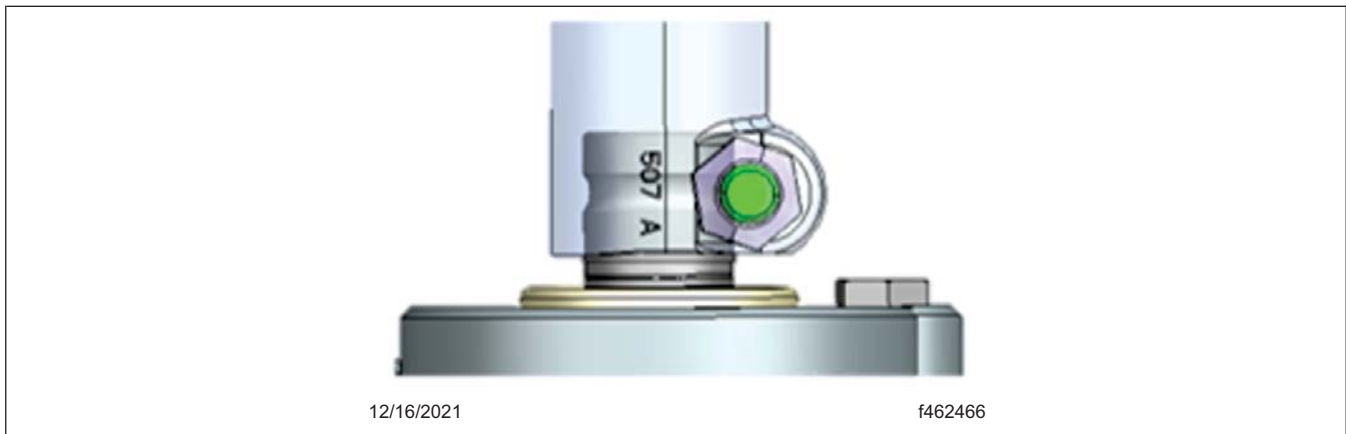
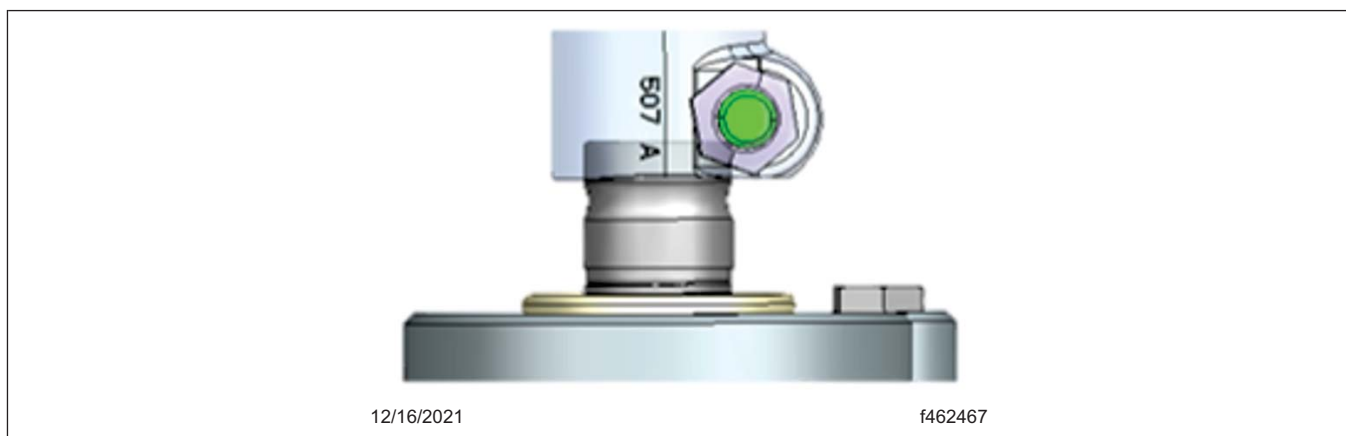

Fig. 1, I-shaft Installed Properly
Fig. 2, I-shaft is Lifted or Displaced
4. Inspect the I-shaft to ensure it is seated all the way down to the steering gear. For correct installation, see Fig. 1. For incorrect installation, see Fig. 2.